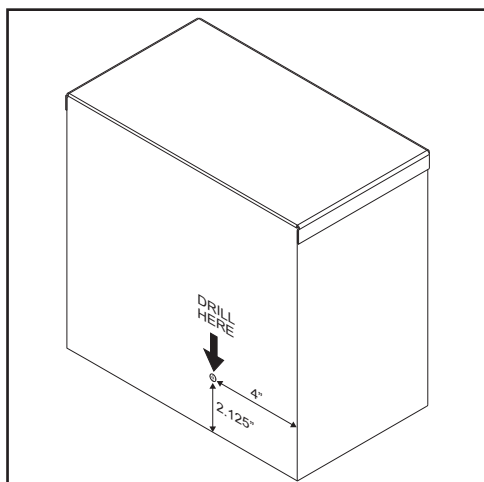

FIGURE 10
1. On the rear right side of the control box, measure up from the bottom of the control box 2 1/8", make a mark on the rear control box panel. SEE FIGURE 10.
2. On the back of the control box, measure from the right side 4", towards the center of the box. Make a mark on the rear control box panel. SEE FIGURE 10.
3. Where the two lines cross drill a 1/4" hole. SEE FIGURE 10. **Note:** Check for wires inside the box so the drill bit does not damage any wires.